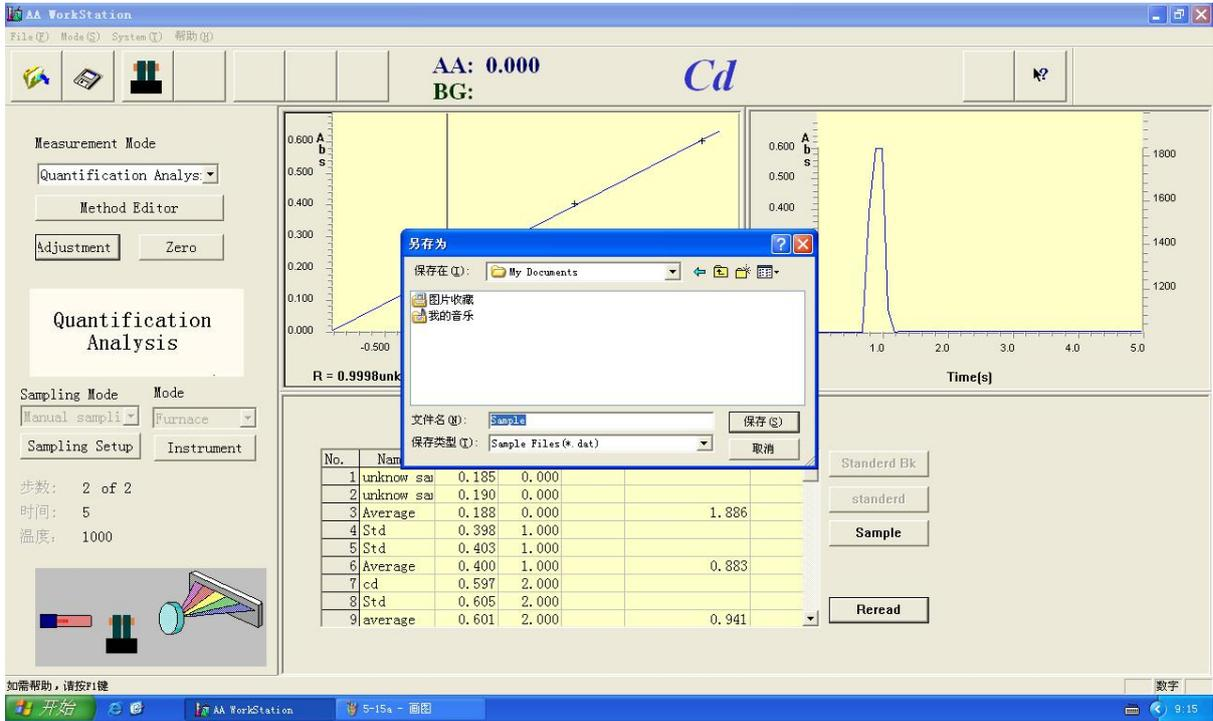

Figure 5-70
3. Press "Save" Figure 5-70 displays, input file name, press "Save"